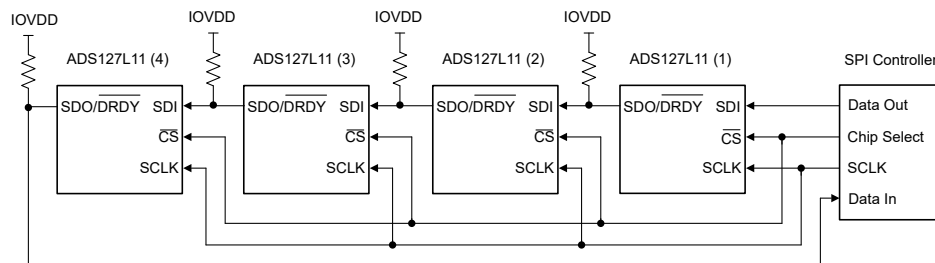

图 8-36. Daisy-Chain Connection
图 8-36 shows four devices connected in a daisy-chain configuration. The SDI of ADS127L11 (1) connects to the host SPI data out, and SDO/DRDY of ADS127L11 (4) connects to the host SPI data input. The shift operation is simultaneous for all devices in the chain. After each ADC shifts out the conversion data, the data of SDI appears on SDO/DRDY to drive the SDI of the next device in the chain. The shift operation continues until the last device in the chain is reached. The SPI frame ends when \overline{CS} is taken high, at which time the data shifted into each device is interpreted. The SDO/DRDY pin must be programmed to data output-only mode.
图 8-38 shows the detailed input data sequence for the daisy-chain write register operation of 图 8-36. 40-bit frames for each ADC are shown (24-bits of data, with the STATUS and CRC bytes enabled). Command operations can be different for each ADC. The read register operation requires a second frame operation to read out the register data.
图 8-39 shows the clock sequence to read conversion data from the device connection provided in 图 8-36. This example illustrates a 32-bit output frame (24-bits of data, with the CRC byte enabled). The output data of ADC (4) is first in the sequence, followed by the data of ADC (3), and so on. The total number of clocks required to shift out the data is given by the number of bits per frame \times the number of devices in the chain. In this example, 32-bit output frames \times four devices result in 128 total clocks.